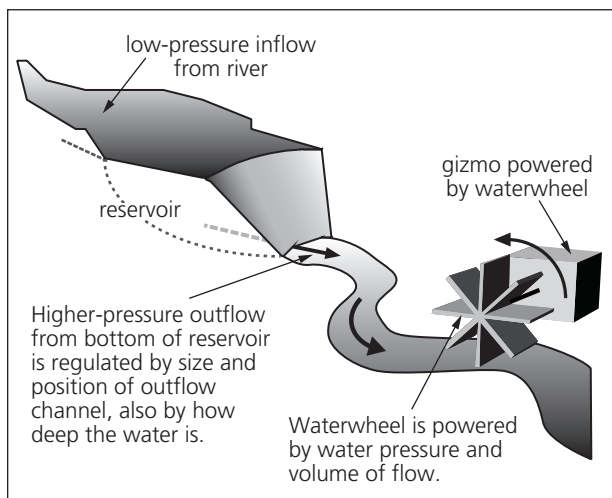
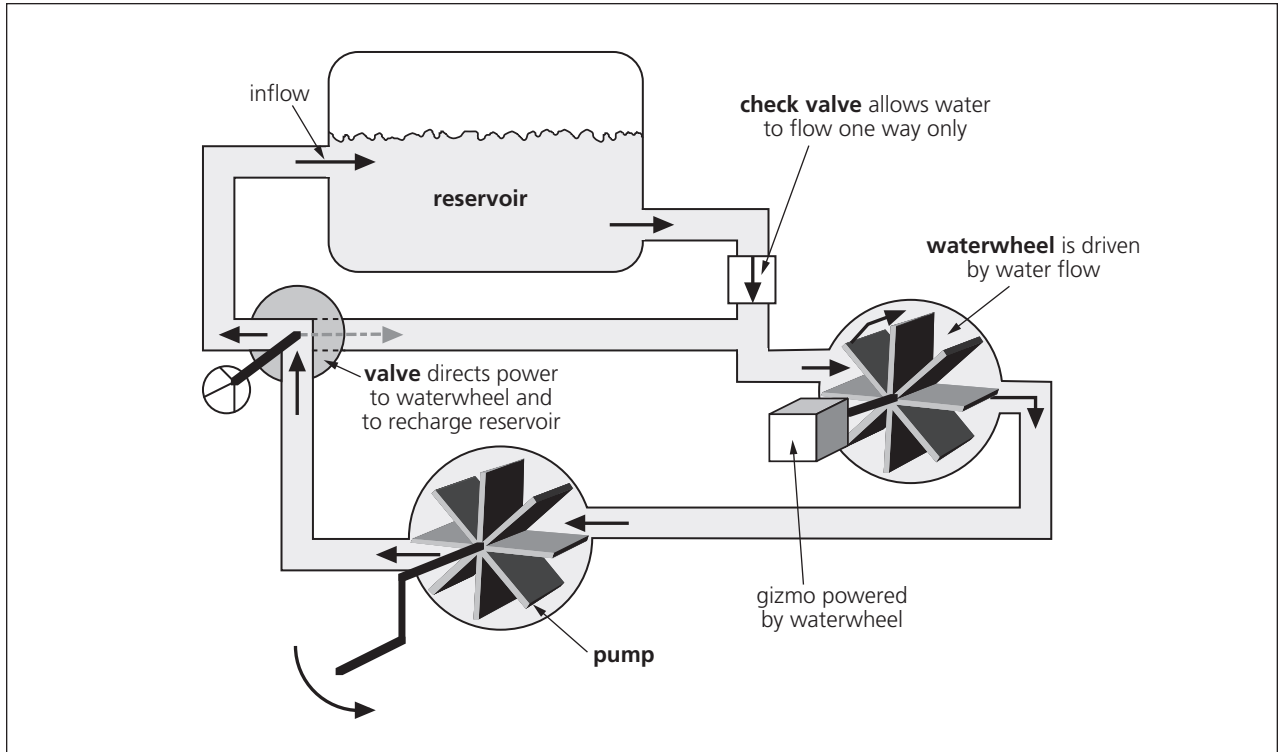
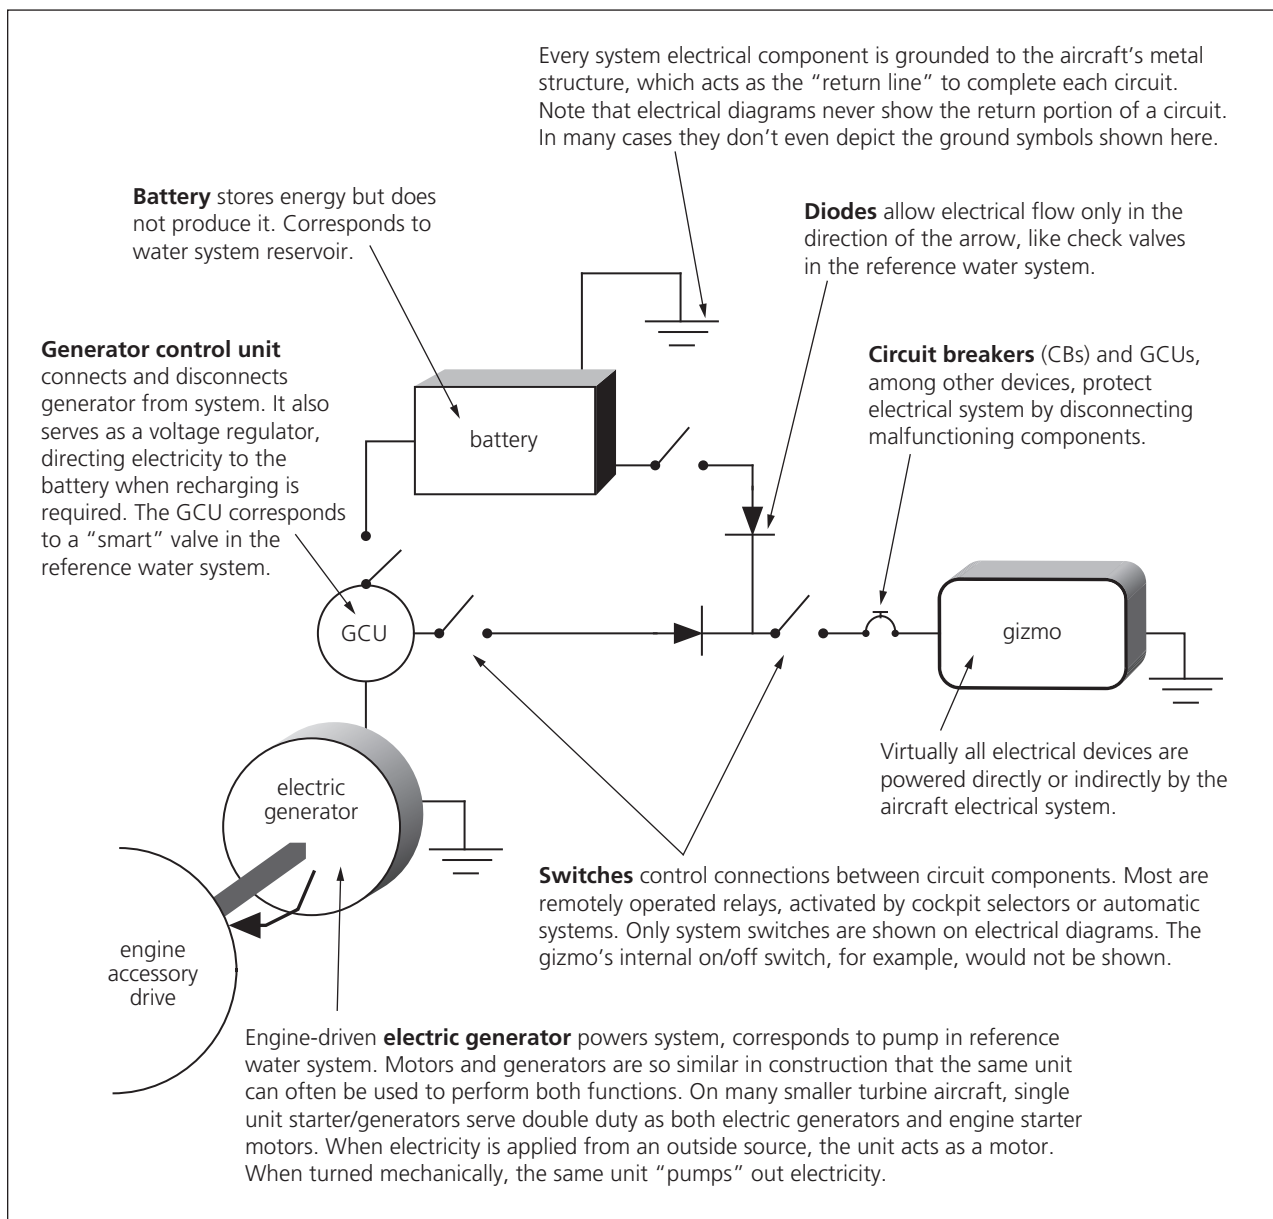

FIGURE 4.1 | Simple waterwheel.
FIGURE 4.2 | Reference waterwheel system.
FIGURE 4.5 | Basic electrical components.
In the simple waterwheel example in Figure 4.1, a river provides energy to a waterwheel through the force of gravity. One problem with rivers (and most other power sources) is that their flows are not consistent all the time. Therefore, a reservoir is useful so that stored energy is available even when the river's flow is down. (Without it there'd be lots of water power available at some times, and little or none at others.) The reservoir also serves to regulate the flow of water to the waterwheel, making for more consistent operation. The waterwheel itself is useful because it converts the river's energy into mechanical
If we do not have a continuously flowing energy source like the river, we can establish a closed system to drive our waterwheel. In this case, the water must be returned to the reservoir, either continuously or periodically. (Otherwise it'd be a one-shot deal.) To accomplish this a pump has been added to the system shown in Figure 4.2. The pump could be a low-pressure pump that simply returns water to the reservoir, or it could be a high-pressure pump that pressurizes the system. Given a strong enough power source (like Hercules or one of the superheroes), the pump could power the whole waterwheel system, without the help of gravity or a reservoir. Note that the waterwheel and the pump are similar in construction. It's just that one device puts energy into the waterwheel system and the other takes it out in a different spot. These two components could swap functions, based upon which one the power is applied to.
A reservoir stores water volume, but it also stores potential energy in the form of pressure. In Figure 4.1, the pressure is stored purely in the form of the water's weight above the outlet. (That is, if the reservoir is almost empty, there won't be much pressure at the outlet compared with when it's full.) The system in Figure 4.2, however, may be further pressurized through use of a high-pressure pump. In addition, air can be compressed into the reservoir above the water. Even without much water, air pressure could push a small amount of remaining fluid to power the waterwheel for a short time.
These points are important because each water system's power is tied to two variables: the volume of water being moved and its pressure. A large system like the river and dam in Figure 4.1 needs relatively little pressure to drive the gizmo due to the volume of water flowing. A small system with little water
Note that an electric motor is simply the opposite of a generator. In a motor, electricity channeled through a coil creates an electromagnet, which works against fixed magnets to turn a shaft. In many smaller turbine installations, each engine's generator is also used as a starter motor. With this type of **starter/generator** the difference is simply whether (1) the device is being driven electrically by a battery (or other power source) to spin the engine or (2) the generator is being driven mechanically by the engine to produce electricity (Figure 4.5). You can see that this is no different than our reference water system, where the waterwheel and pump are more or less interchangeable, depending upon where the power is applied (see Figure 4.2).
Examples of other GCU functions include overvoltage protection, load paralleling relative to other generators, and electrical protection at engine startup (see Figure 4.5).
A variety of devices are used to protect system components from damage due to failures. Resettable **circuit breakers (CBs)** “pop” to disconnect individual components that are drawing too much current. (You'll need to know the procedures for resetting them in each aircraft you fly. In some aircraft, pilots are not to reset CBs except in emergencies. More commonly, the CB is reset one time only, then left alone. Incidentally, the CB pops when its housing expands due to heat. If it hasn't cooled down it won't reset, even if the component is okay. Wait a few moments before attempting to reset.) (See Figure 4.5.)